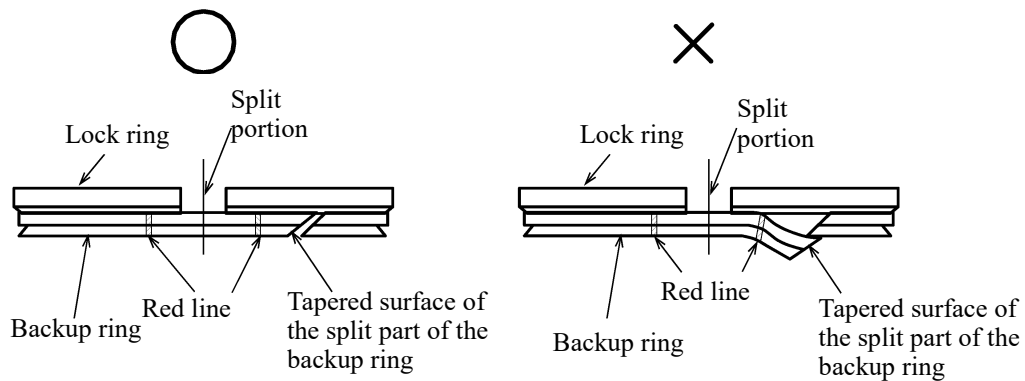

Figure-14 Check of the split part of the backup ring
- (1) Locate the two red lines marked on the backup ring at the center of the lock ring split portion to avoid the overlapped part of the backup ring from getting caught in the split portion of the lock ring. (See Figure-14.) Mark both locations of the lock ring edge on the bell end.
- (2) Ensure the tapered surface of the backup ring faces toward the socket. (See Figure-14.)
- (3) Ensure the split edges of the backup ring (diagonally cut) face correctly, not crossed over.
(See Figure-14.)